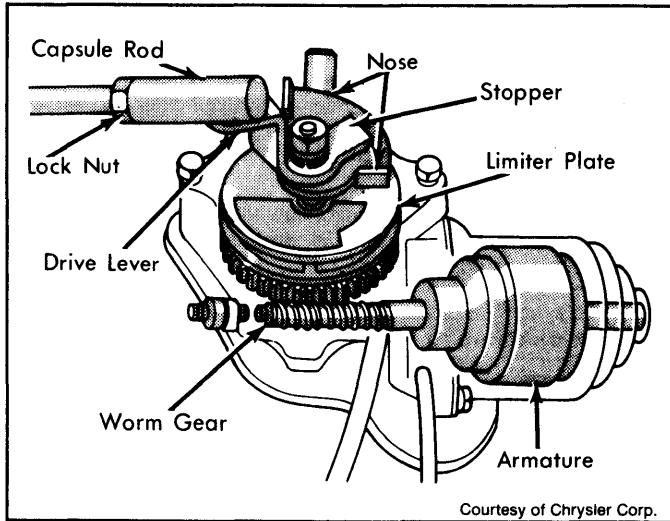

Fig. 14: Adjusting Capsule Rod Length & Drive Lever Position
1) Check capsule rod installation at control motor drive lever. Place injection pump lever in drive position. The drive lever at motor should be between marks. See Fig. 14.